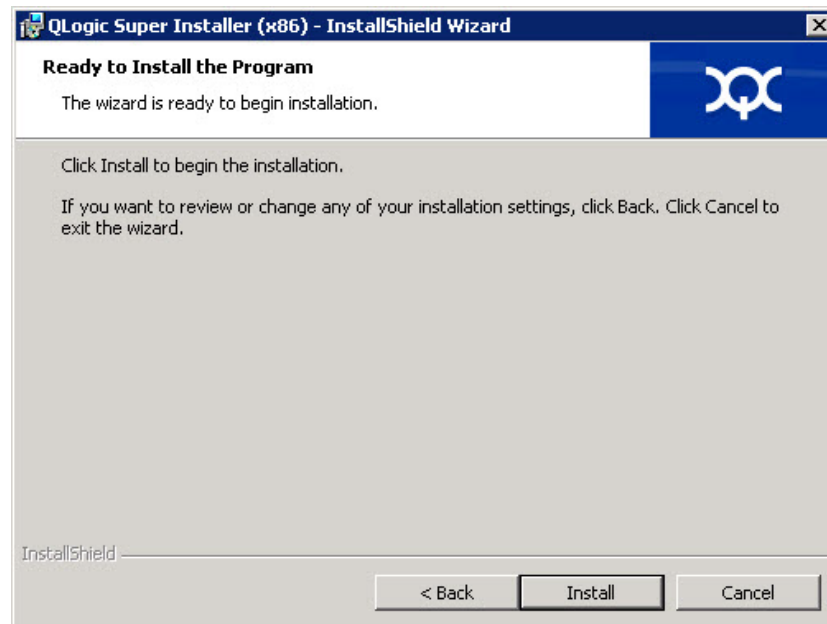

Figure 2-6. InstallShield Wizard: Ready to Install the Program Window
- 7. In the InstallShield Wizard's Ready To Install window (Figure 2-6), click **Install**.